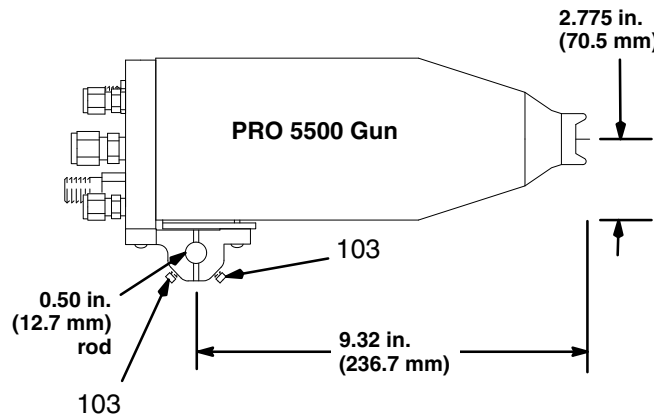

Fig. 3
1. Loosen the mounting bracket's two square head bolts (103) and slide the mounting bracket onto a 0.50 in. (12.7 mm) mounting rod. See Fig. 3.